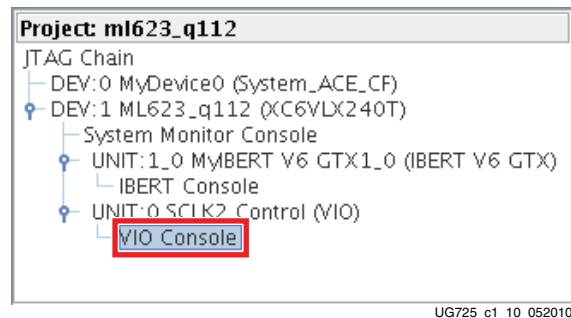

Figure 1-10: VIO Console Selection
1. In the project panel, double-click **VIO Console** (Figure 1-10).